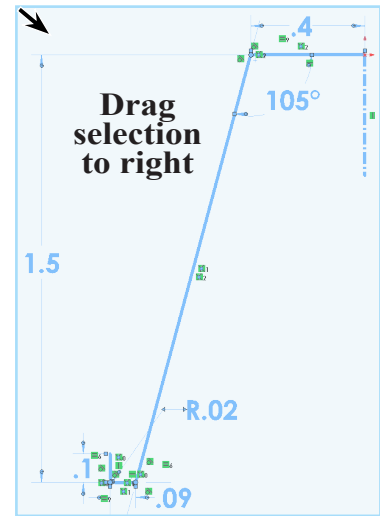

Fig. 8
Step 12. **Drag selection around the sketch** to select all entities, **Fig. 8**.